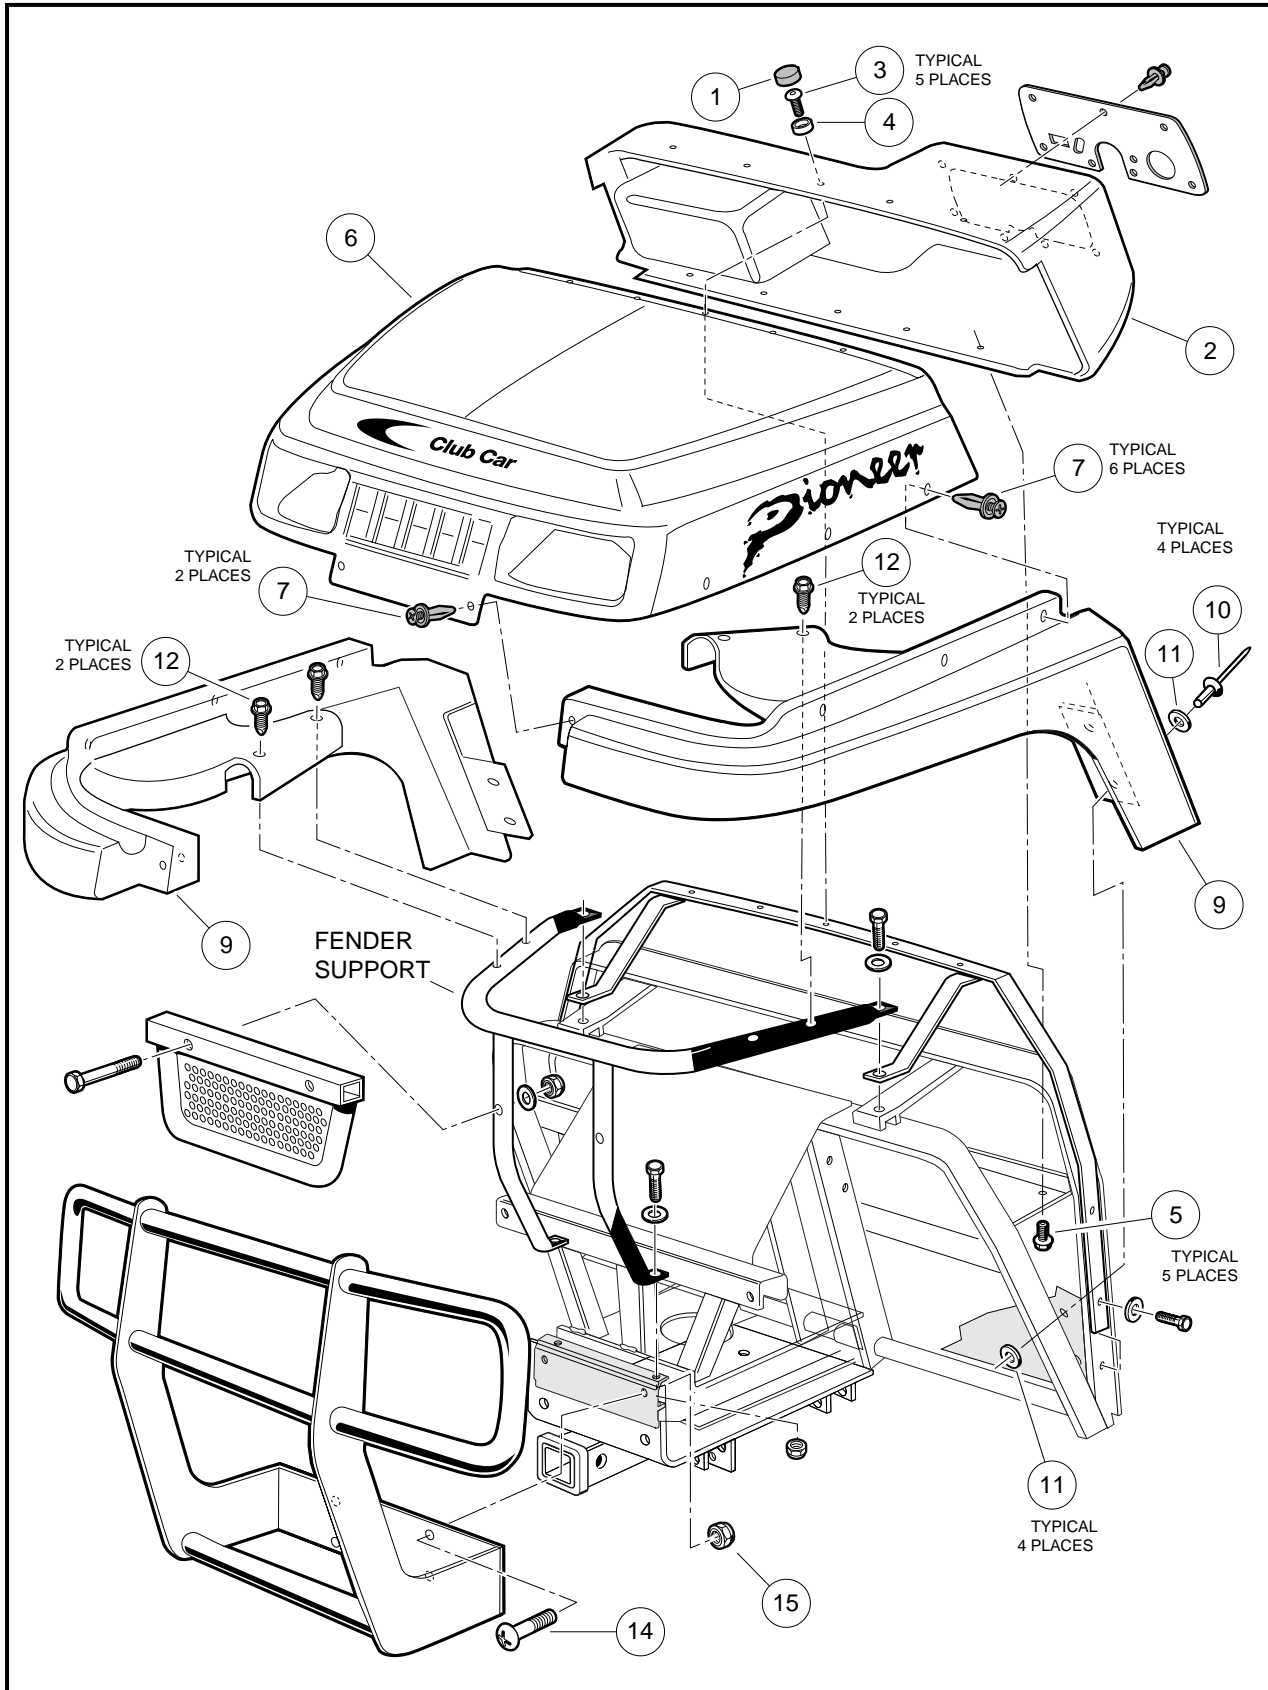

Figure 4-1 Front Body Assembly
1. Remove the four truss head screws (14) and nuts (15) that secure the brush guard to the vehicle frame (**Figure 4-1, Page 4-4**).
1. Installation is the reverse of removal. Tighten the four nuts (15) to 15 ft-lb (20.3 N·m) (**Figure 4-1, Page 4-4**).
2. Remove five caps (1) from top of dashboard (2) (**Figure 4-1, Page 4-4**).
3. Using a T-30 Torx head socket, remove screws (3) and washers (4) from top of dashboard (2).
4. Using a 5/16 nut driver, remove five screws (5) from underside of dashboard and pull dashboard away from front body (6).
1. Replace dashboard (2) and tighten screws (5) to 11 in-lb (1.2 N·m) (**Figure 4-1, Page 4-4**).
2. Secure dashboard to front body with five screws (3) and washers (4). Tighten screws to 45 in-lb (5.1 N·m).
3. Install five caps (1).
1. Remove five caps (1) from top of front body (6) (**Figure 4-1, Page 4-4**).
2. Using a T-30 Torx head socket, remove screws (3) and washers (4) from top of front body (6).
3. Using a phillips head screwdriver, remove the six Tuflok fasteners (7) from sides and two from front of front body.
5. Pull front body forward to clear dashboard and lift off vehicle (**Figure 4-1, Page 4-4**).
1. Remove front body (6) as instructed in **Front Body Removal on page 4-3 (Figure 4-1, Page 4-4)**.
2. Pull back floor mat to access rivets securing front fender (9). Drill out two rivets (10) and remove four washers (11) at bottom of front fender.
3. Remove two screws (12) securing fender to fender support and remove front fender from vehicle.
1. Place front body (6) onto vehicle and connect the light wiring harness to the headlight assemblies (**Figure 4-1, Page 4-4**).
2. Secure front body to dashboard with five screws (3) and washers (4). Tighten screws to 45 in-lb (5.1 N·m).
4. Secure front body to fenders with eight Tuflok fasteners (7). To install the Tuflok fasteners, insert into hole and push the head in.